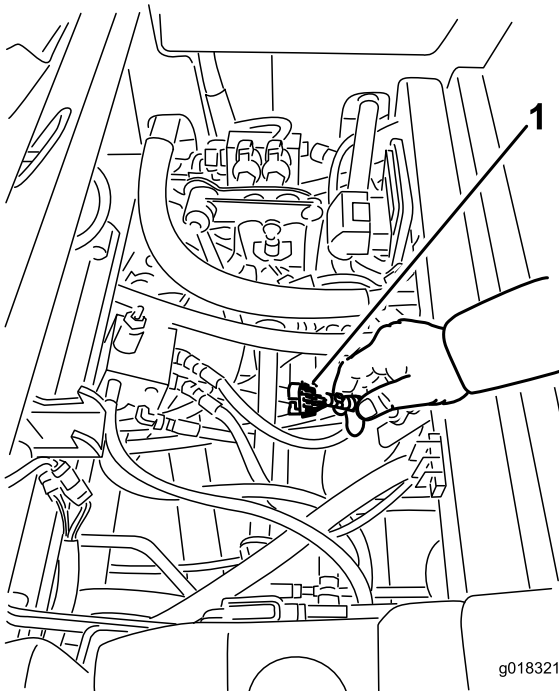

Figure 18
- Locate the wire harness and connectors near the controller (Figure 18).